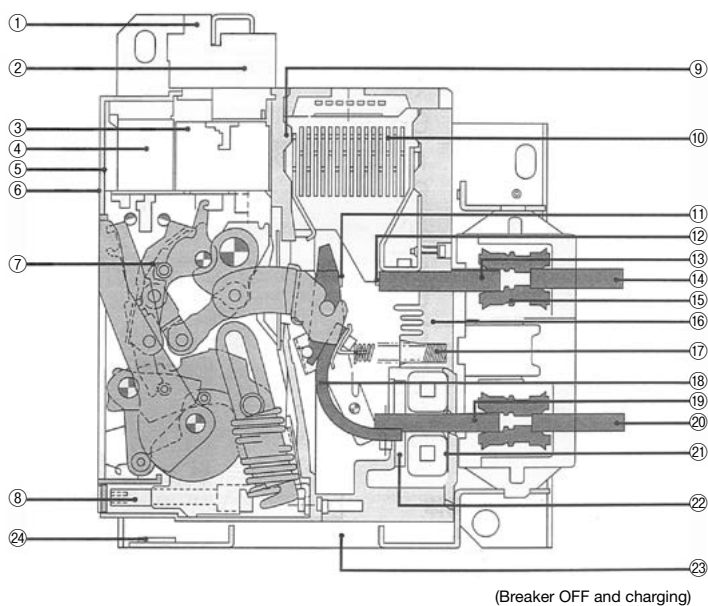

Fig. 5-1
- ① Make sure that the packing case is free from any abnormality such as being broken and/or wet.
- ② Check the indication on the package and the rated nameplate of the breaker, and confirm that it matches your order.
Serial number is indicated on the rated nameplate and on the cradle nameplate (Fig. 5-1②).